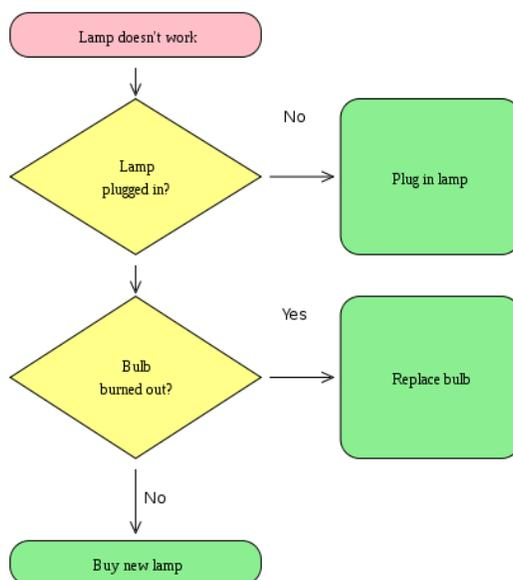

Figure 3: Example flowchart
2. While your detailed procedure provides all the information necessary to complete this experiment, it is easy to lose the overall goal or purpose of the experiment in a sea of details. In your lab notebook, create an outline or flow chart (see Figure 3) that guides you through the main parts of this experiment. This diagram shouldn't include every single detail of your procedure. Instead, it should provide an overview of *what* you'll be doing and *why* you'll be doing it.